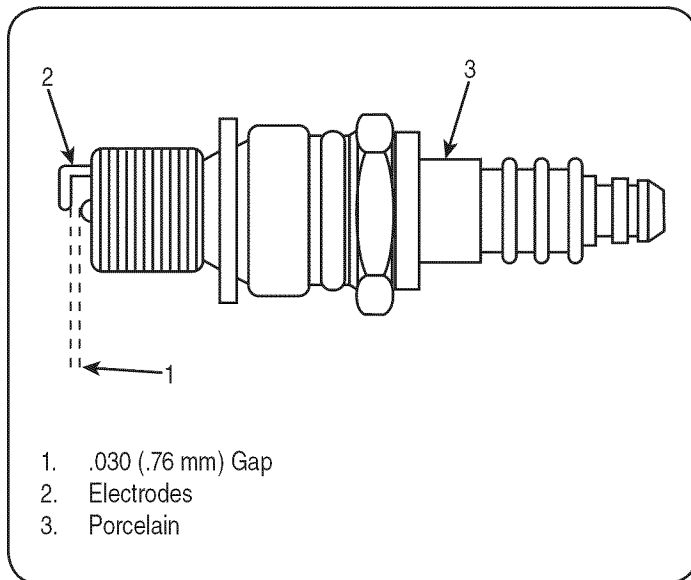

Figure 26
4. Check the electrode gap with a wire feeler gauge and reset the gap to .030 inches. See Figure 26.